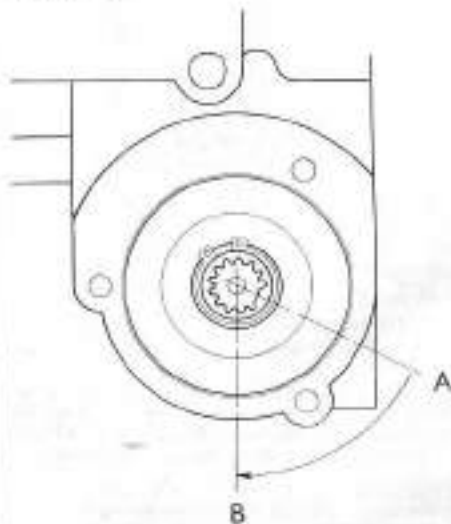

Fig. 63—View showing timing of 3-cylinder diesel injection pump drive gear to camshaft; refer to paragraph 112.
To install gear and housing assembly, first remove rocker arm cover and turn engine until No. 1 piston is on compression stroke, then continue turning engine until timing pin will drop into detent in flywheel through TDC hole in housing. Refer to Fig. 63 and install gear and housing with master spline at "4 o'clock" position (A); as the gear engages with drive gear on camshaft, the master spline should move to "6 o'clock" position (B).
Fig. 64—Exploded view of 3-cylinder diesel injection pump drive gears; refer to Fig. 63 for cross-sectional view and to Fig. 63 for retiming pump drive gear to camshaft.